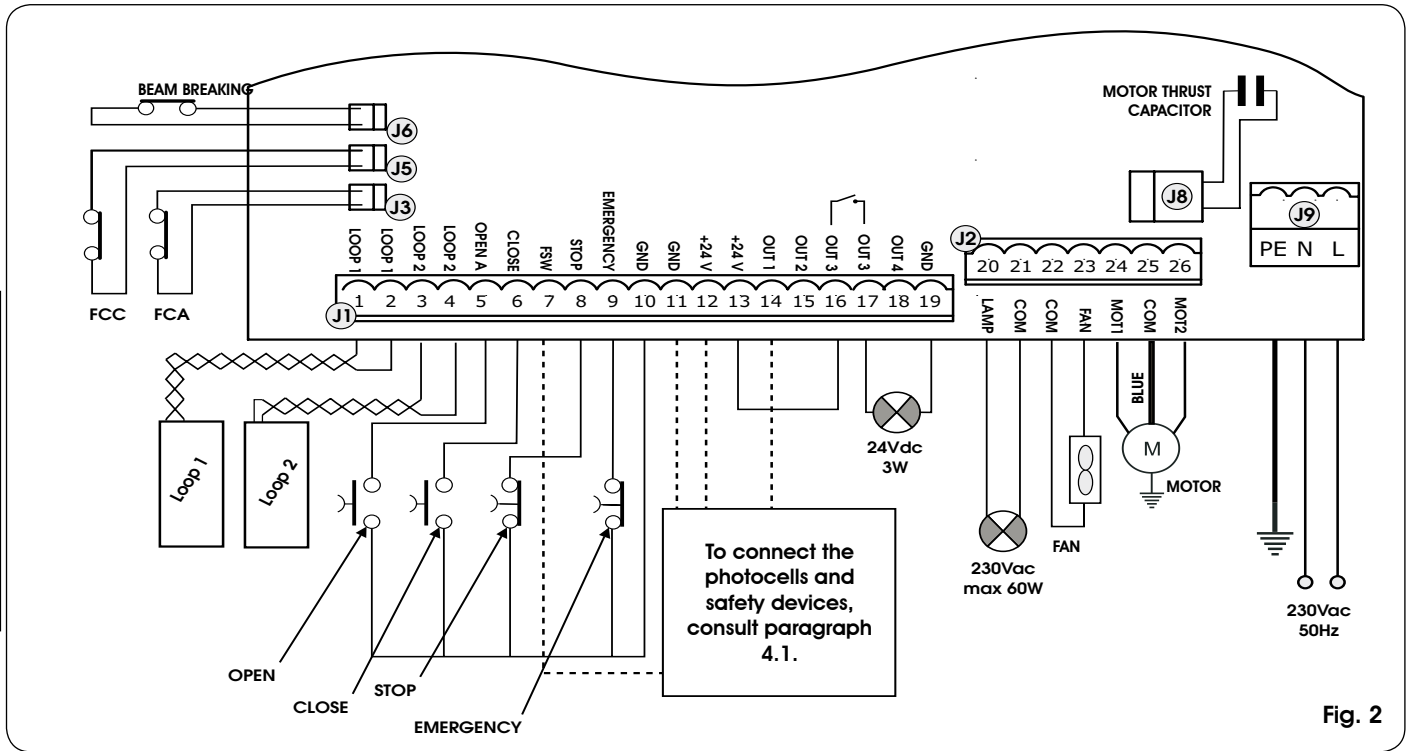

Fig. 2
- Connect the earth cable to the terminal on the J9 connector of the unit (see fig.2).
4.2. J1 TERMINAL-BOARD - ACCESSORIES (FIG.2)
Connect a 24 Vdc - 3 W max. indicator light, if any, to these terminals, following the instructions in fig. 2.
4.3. J2 TERMINAL-BOARD - MOTOR - FLASHING LIGHT AND FAN (FIG.2)
4.4. J8 CONNECTOR - MOTOR CAPACITOR (FIG.2)
4.5. J9 TERMINAL-BOARD - POWER SUPPLY (FIG.2)
4.6. J3, J5 RAPID CONNECTORS - FOR OPENING AND CLOSING LIMIT-SWITCHES (FIG.2)
4.7 J6 CONNECTOR - BEAM BREAKING SENSOR (FIG. 2)
4.8. J11A,B,C CONNECTOR - QUICK-FIT CONNECTOR FOR EXTERNAL LOOP DETECTOR (FIG.2)